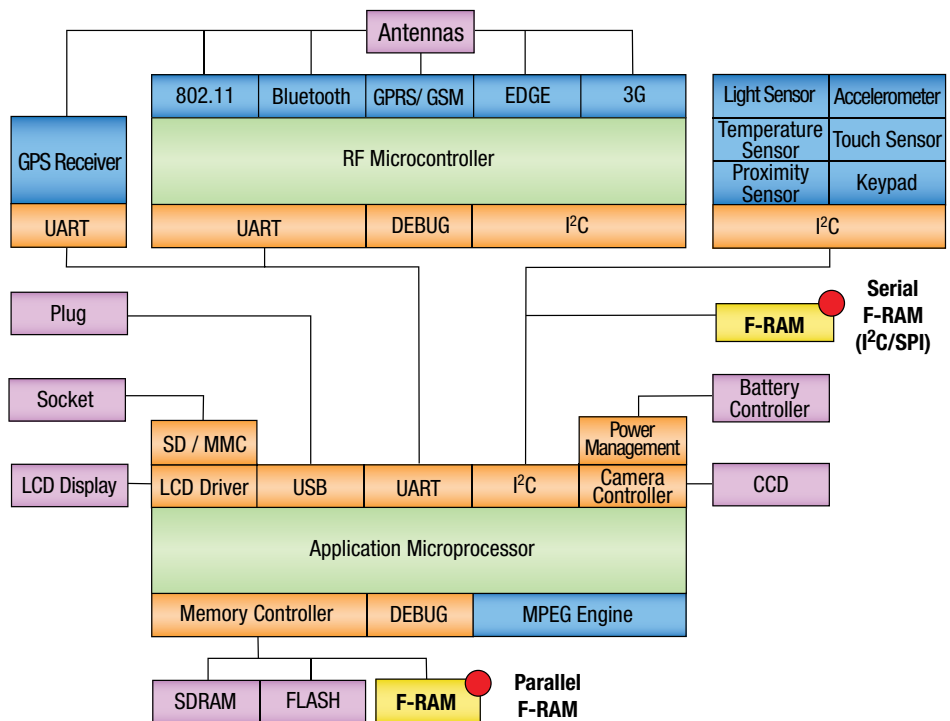

Figure 1. Generic cellular phone functional block diagram
- Eliminate delays during power-up** by substituting F-RAM for SRAM or SDRAM. F-RAM enables the highly desirable "instant on" feature in your cell phone design by powering up with the last known data fully intact. See Figure 1 Generic Cellular Phone Functional Block Diagram.